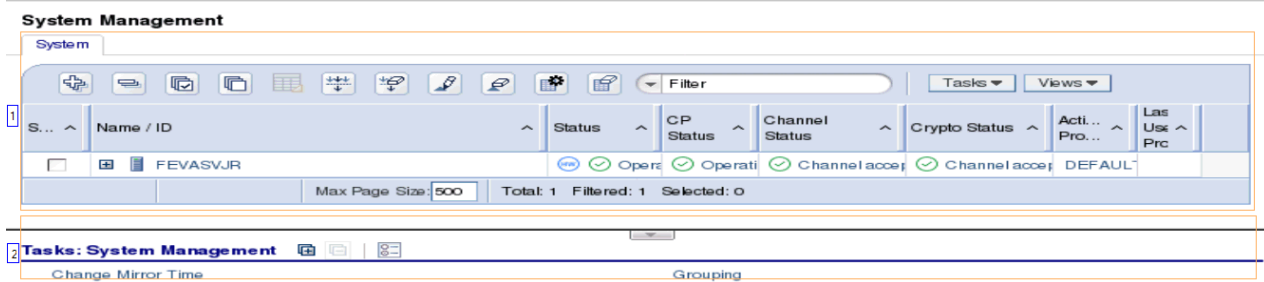

Figure 9. Sample System Management view in work pane
The **System Management** node represents all the resources that are managed by this Support Element console. When you select the **System Management** node from the navigation pane, all managed objects are displayed in the work pane, as shown in Figure 9 on page 265.
- You can use the collapse control, which is highlighted in Figure 9 on page 265, to hide the task pad.